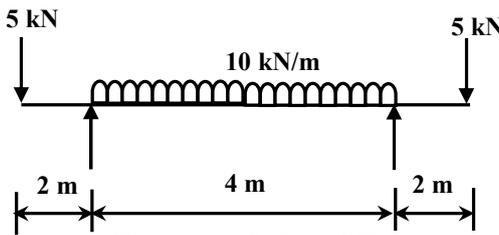

Figure: 3 Q-2(b) OR
- (b) Calculate S.F. & B.M. and draw S.F. and B.M. diagrams for a beam shown in Fig: 3 7